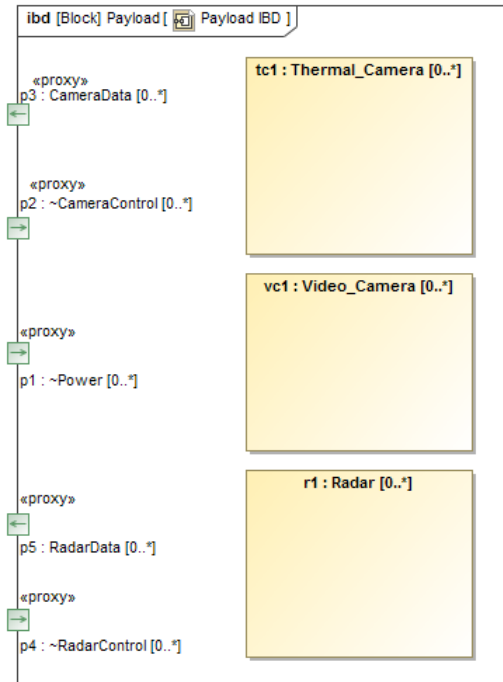

Figure 2 Payload IBD, first stage
- Rearrange the parts and ports so that the diagram appears similar to Figure 2.